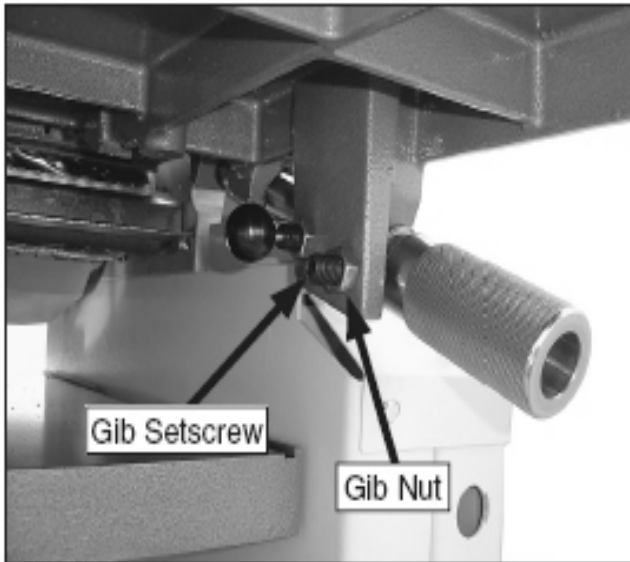

Figure 52. Infeed table gib control.
1. Using an adjustable wrench, loosen the infeed table gib nut under the rear of the table (Figure 52).